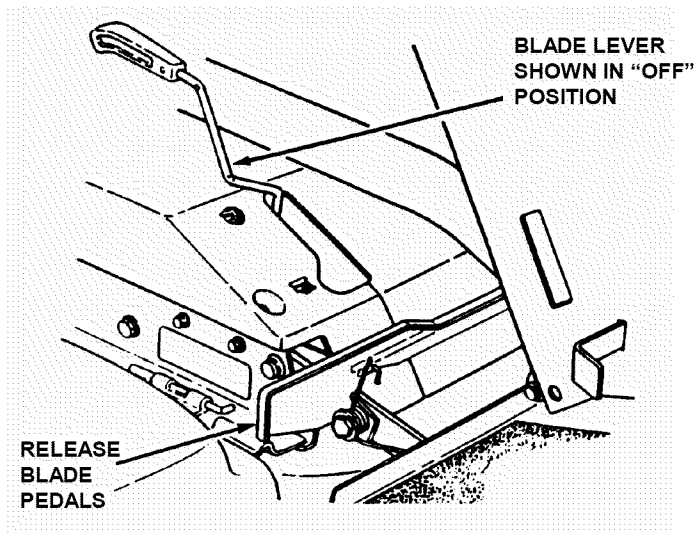
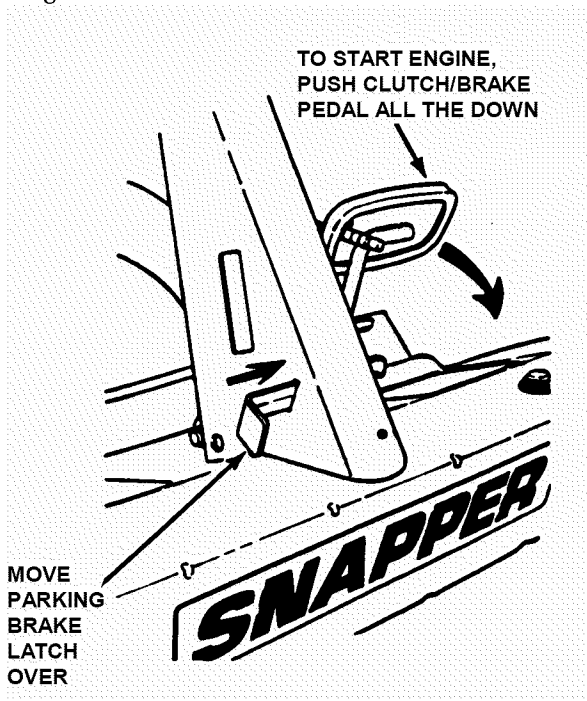

FIGURE 2.4
FIGURE 2.8
1. Move transmission shift lever to (N) Neutral position. **DO NOT** start engine with transmission shift lever in a drive position.
2. Make certain the Blade Lever is in the "Off" position. See Figure 2.4.
IMPORTANT: When the ignition key is turned to "RUN", and the recoil handle is pulled, the engine will turn over, but will not start unless the Clutch/Brake Pedal is pressed all the way down with Parking Brake engaged (See Figure 2.8) and the Blade Lever is in the "Off" position (See Figure 2.4). Start engine as follows:
3. Press Clutch/Brake Pedal all the way down, move Parking Brake Latch over and release the Clutch/Brake Pedal to set Parking Brake. See Figure 2.8.